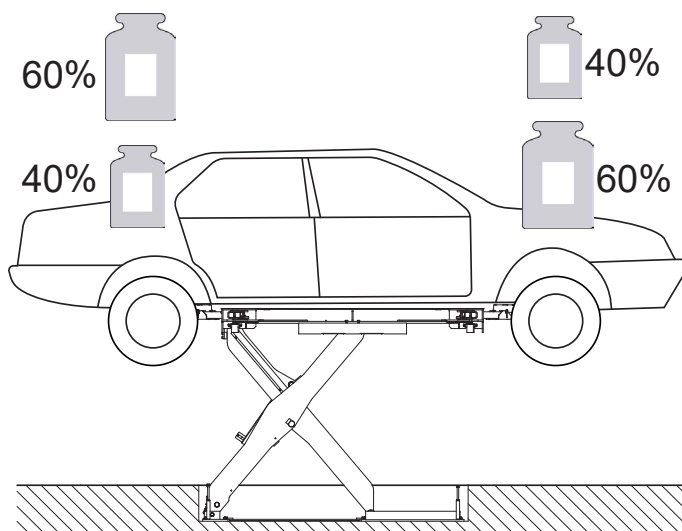

Fig. 1
- 60%:40% / 40%:60% (reversibile) (Fig. 1).